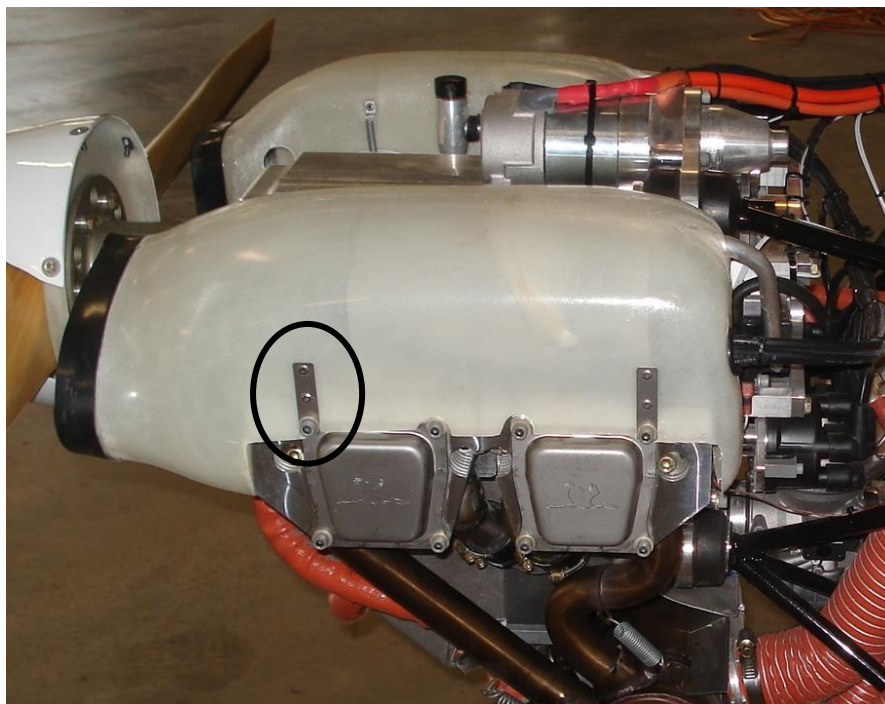

Figure 154 – Air Duct Hard Point Reinforcement
- Damaged mounting hard points for the air ducts are best repaired by the installation of reinforcing tags as shown in Figure 154.